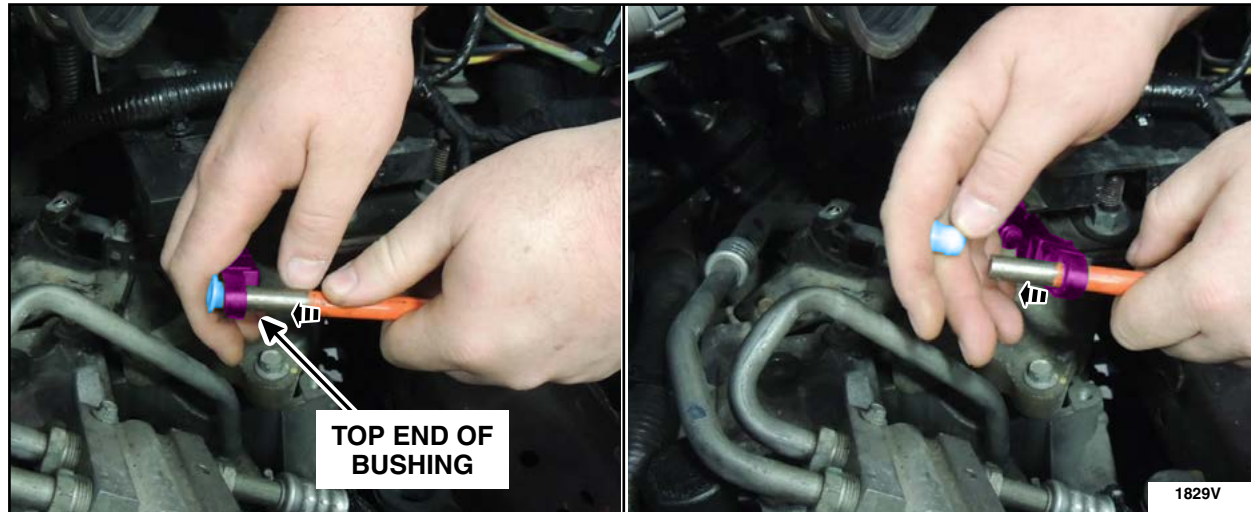

FIGURE 5
7. Turn the selector lever cable end over and using a punch push the bushing the rest of the way out of the selector lever cable end. See Figure 5. Proceed to Step 8.